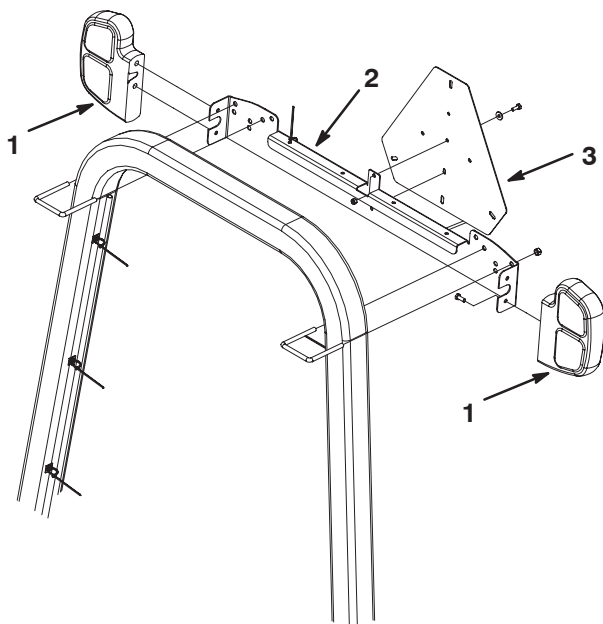

Figure 16
1. Mount the appropriate (R.H. or L.H.) tail light assembly to each end of the light bracket with (2) (M8–1.25) screws as shown in Figure 16. The black lens should be toward the front of the machine. Torque the screws to 72 in–lbs. **Do Not Over Tighten The Screws.**
2. Loosely mount each end of the light bracket to the ROPS with a U-bolt and (2) (3/8–16) locknuts as shown in Figure 16.
6. Secure the harness to the ROPS with (3) mounting pads and cable ties (Fig. 16). Evenly space the mounting pads and cable ties on the ROPS tube. Make sure the surface is clean before affixing the mounting pads.
8. Secure the harness to the (4) holes in the light bracket with cable ties.
1. Mount the slow moving vehicle (SMV) emblem to the light bracket with (2) (1/4 x 3/4 in.) screws, flat washers, and locknuts (Fig. 16 & 18).